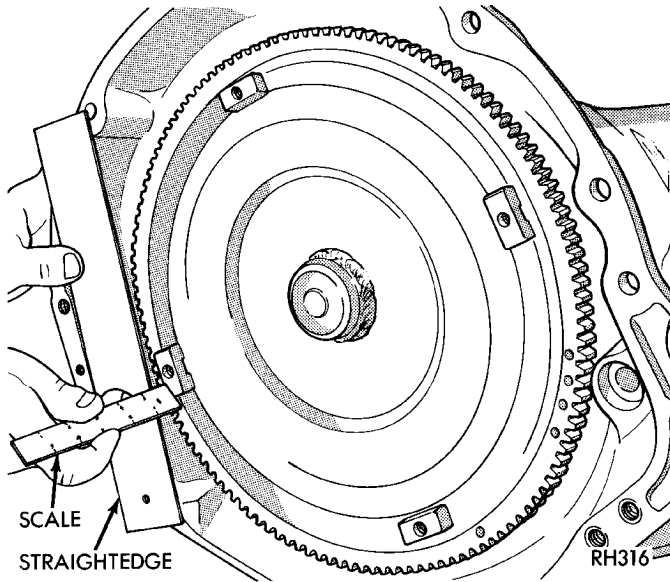

Fig. 16 Typical Method Of Checking Converter Seating
(5) Carefully insert converter in oil pump. Then rotate converter back and forth until fully seated in pump gears.
(6) Check converter seating with steel scale and straightedge (Fig. 16). Surface of converter lugs should be 1/2 in. to rear of straightedge when converter is fully seated.
(7) Temporarily secure converter with C-clamp.